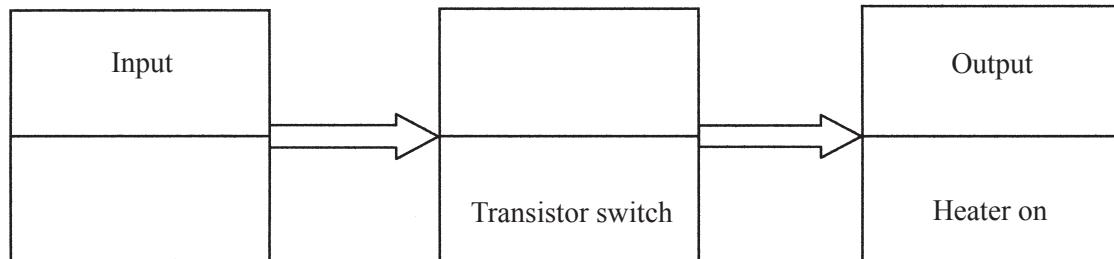

Figure 6
- (a) (i) Complete **Figure 6** for a heating control system. (2 marks)